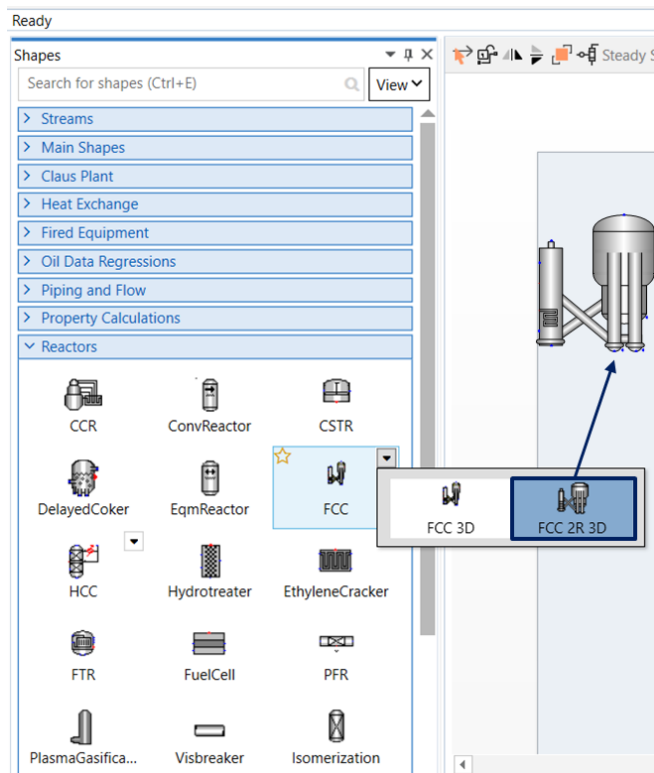

Figure 7. Adding an FCC 2R unit
1. By dragging and dropping the new “FCC 2R” stencil directly into the flowsheet (see Figure 7):